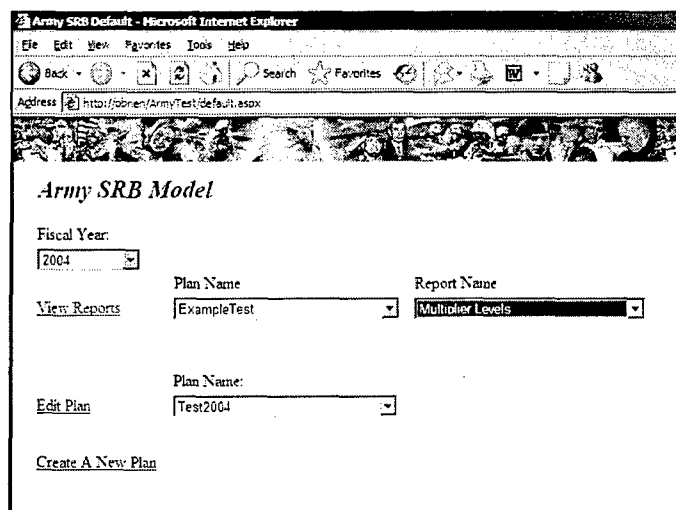

Figure 48. Select Multiplier Levels Report
1. Select an SRB Plan from the Plan Name dropdown box to the right of the View Reports link. Choose the Multiplier Levels report from the Report Name Dropdown box (see Figure 48).